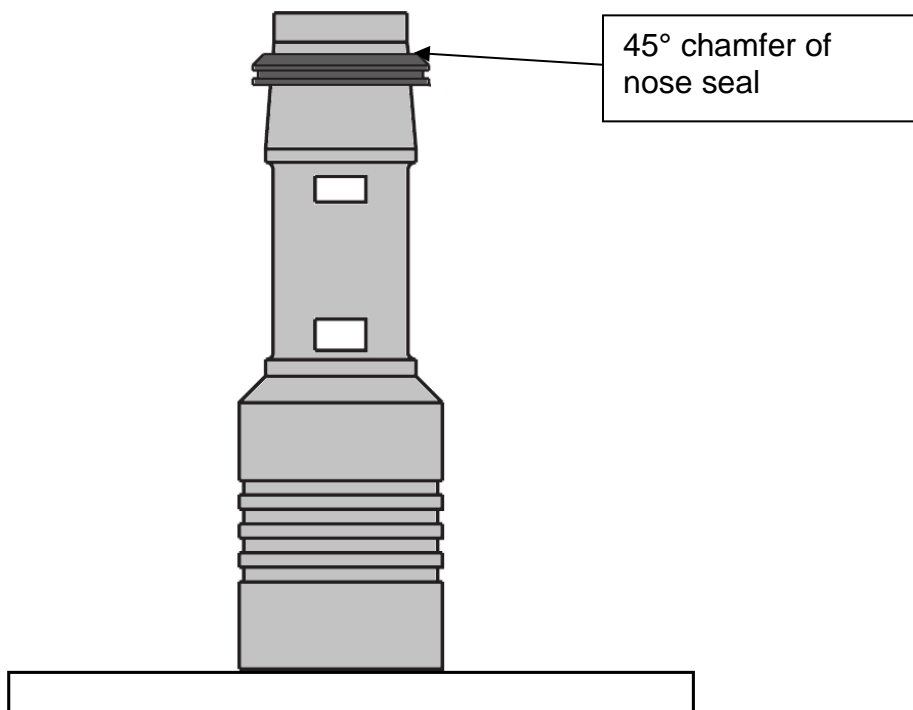

Figure 10: Nose Seal Placement
- 4.5.4 Gently place the nose seal on the tapered nose of the insert with the 45° chamfer upward as indicated in Figure 10, so that only a minimal amount of force.